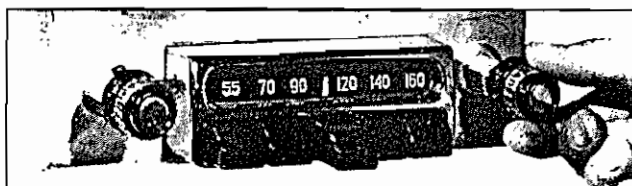

Figure 23
An outstanding feature of the 987727 radio is the new mechanical tuner. A simplified method of setting the push buttons has been developed. These buttons can be set easily by anyone without tools, as shown in Figures 23, 24 and 25. With this type of completely mechanical push button tuning, no dial cords or pulleys are used, thus assuring trouble-free operation and constant calibration of the radio stations on the push buttons at all times.
2. Tune in station desired with manual tuning knob to clearest point, see Figure 23.